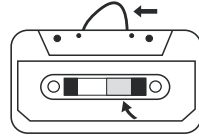

Fig. 1
- Check that there are no loose layers of tape visible through the cassette centre window (see Fig.1). Take up any loose layers, using a pencil or hexagonalbarrelled ballpoint pen, before inserting the cassette into the machine (see Fig.2).